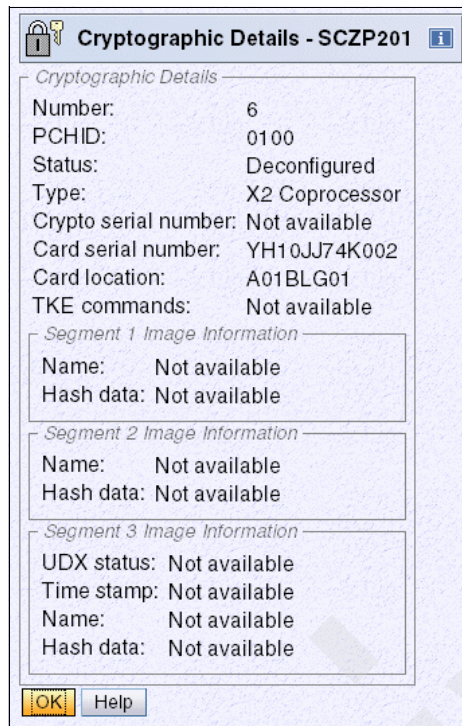

Figure 8-32 Cryptographic Details (Coprocessor)
- Click the **View Details** option for complete details (Figure 8-32 on page 359).